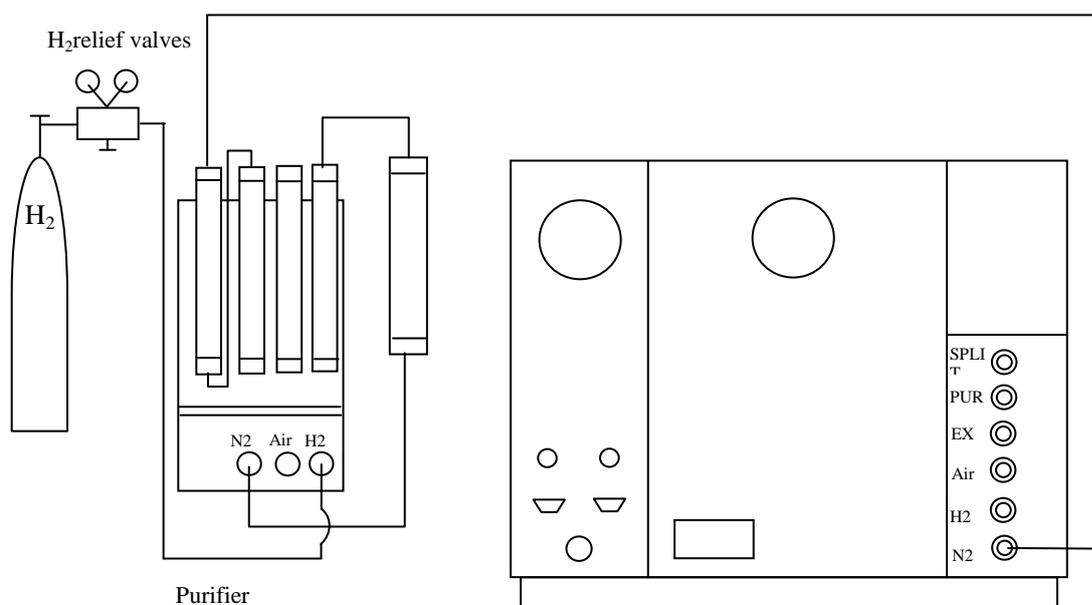

Figure 7-9 De-oxidation tube connection sketch
- Hydrogen should be strictly de-oxidized to prevent TCD strange peak occurring during temperature program. De-oxidation tube may be used de-oxidation. Please refer to Figure 7-9 for de-oxidation tube connection. Pure nitrogen (oxygen concentrate \leq 1ppm) shall also be used as carrier gas.